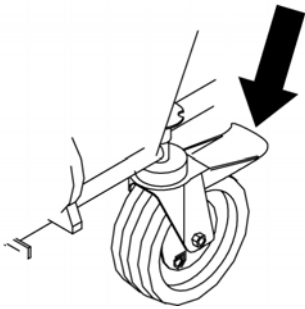

Fig. 18: Lockable castor
1. Lockable castor (Fig. 18) must be locked before starting up the machine.